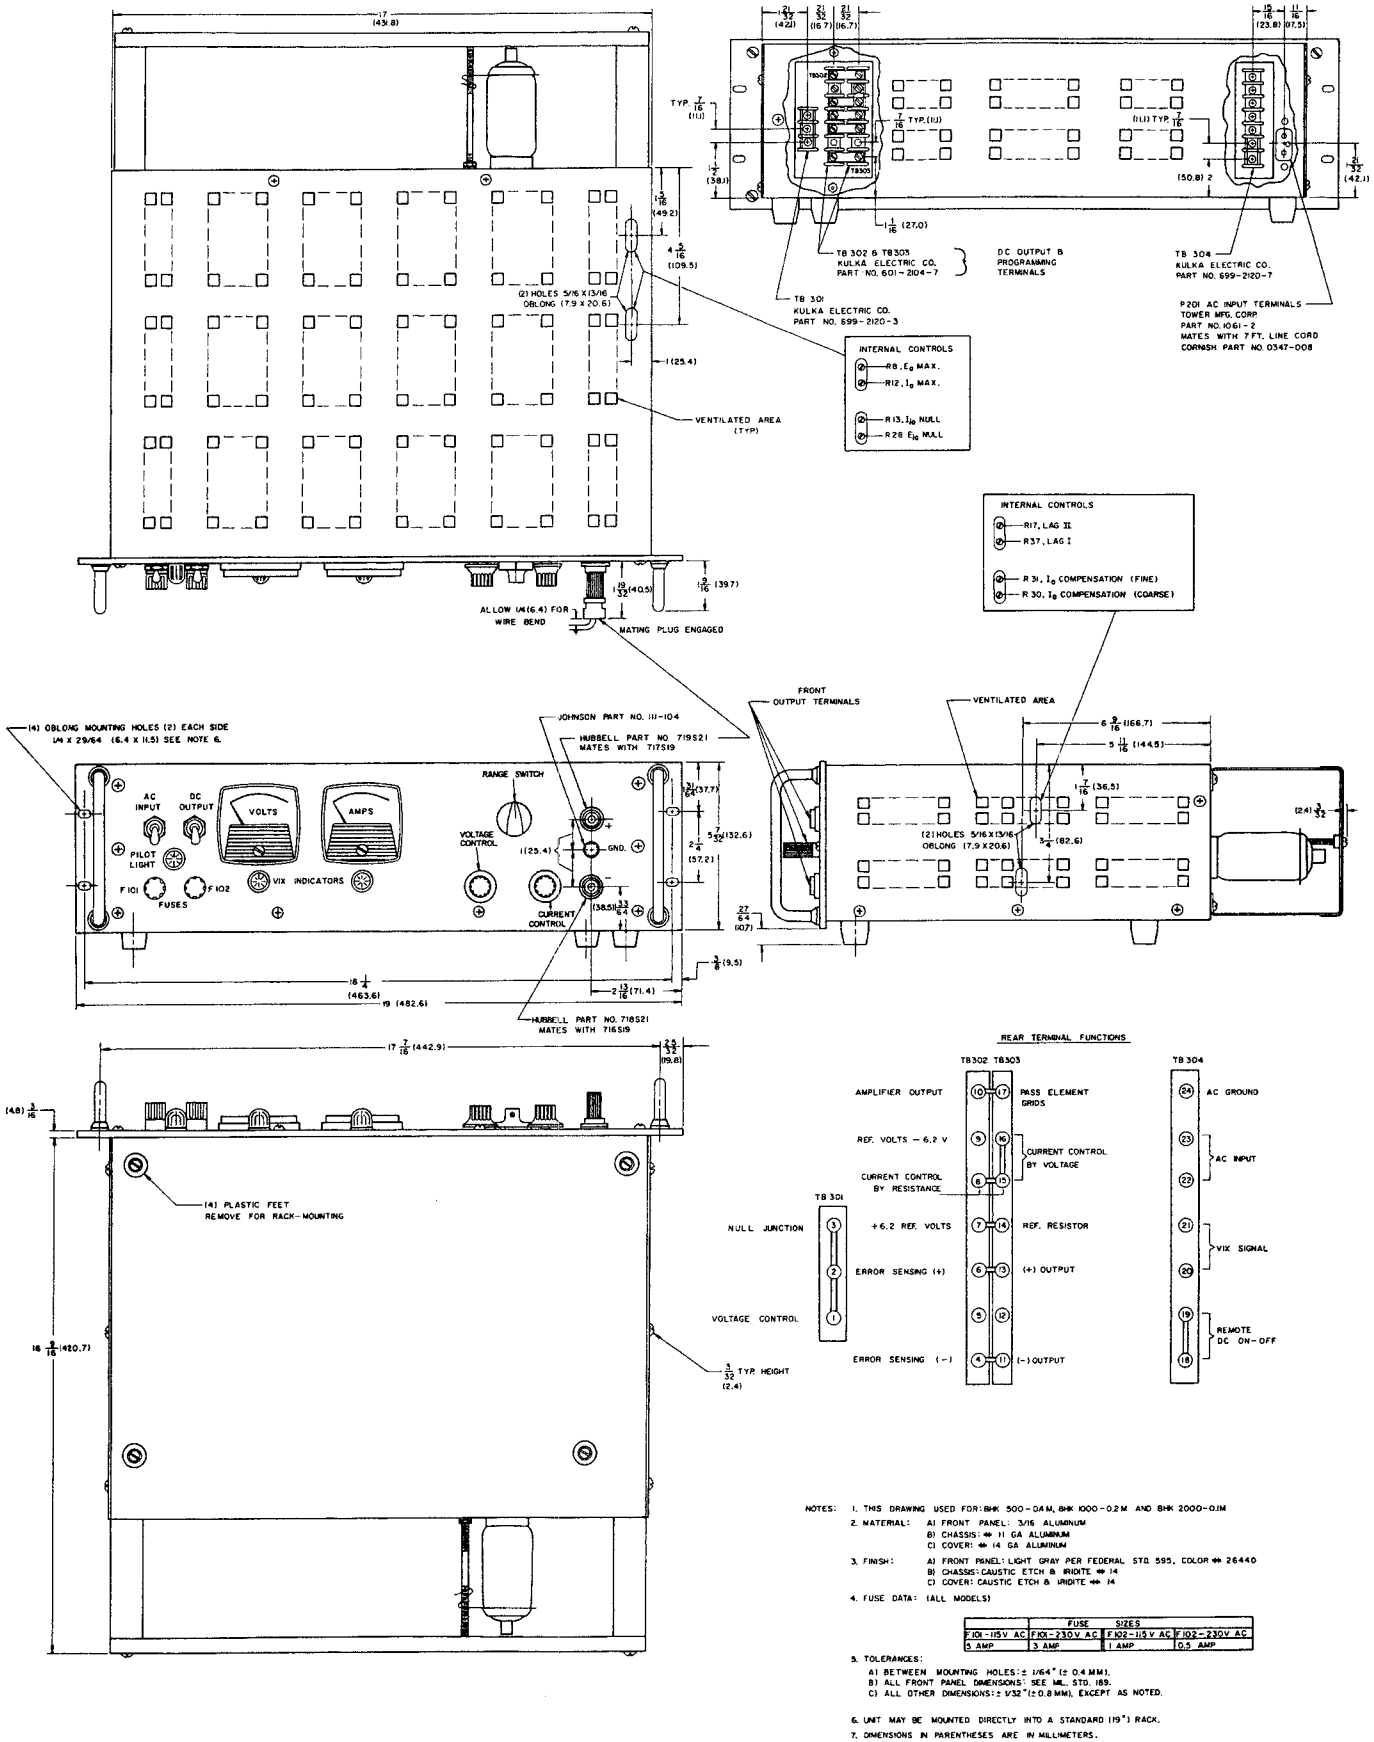

FIG. 1-3 MECHANICAL OUTLINE DRAWING, BHK SERIES
- b) TERMINALS AND CONTROLS: Refer to "Mechanical Outline Drawing" (FIG. 1-3) and Section II (paragraph 2-3).
- c) DIMENSIONS AND FINISH: Refer to "Mechanical Outline Drawing" (FIG. 1-3).
- b) SIGNAL GROUND. The d-c output is isolated from the a-c power line and from any direct connection to chassis or ground. The negative side of the output is connected to chassis through a capacitor in series with a resistor⁽¹⁾. The maximum voltage that can be supported between either output terminal and ground or chassis is 1000V d-c plus the maximum output voltage of the power supply. Either side of the output may be grounded. Convenient grounding terminals are provided at the front panel binding post or at the rear barrier-strip. (Refer to FIG. 1-3).